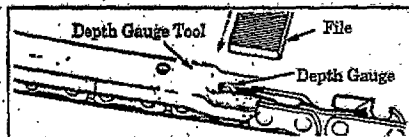

Figure 33
- a.) Place depth gauge tool over each cutter depth gauge. Figure 33.
- c.) Maintain rounded front corner of depth gauge with a flat file. Figures 33 & 34.